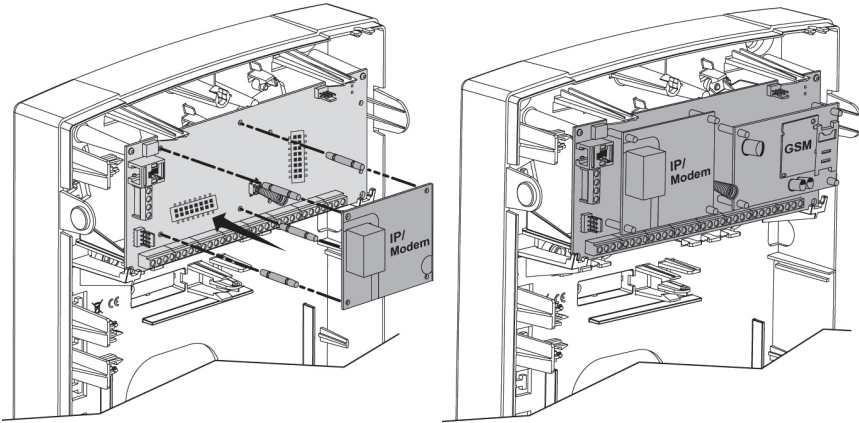

Figure 2-11 Placing the IP module
2. Place the IP module (mounted on its standoffs) as illustrated in Figure 2-11